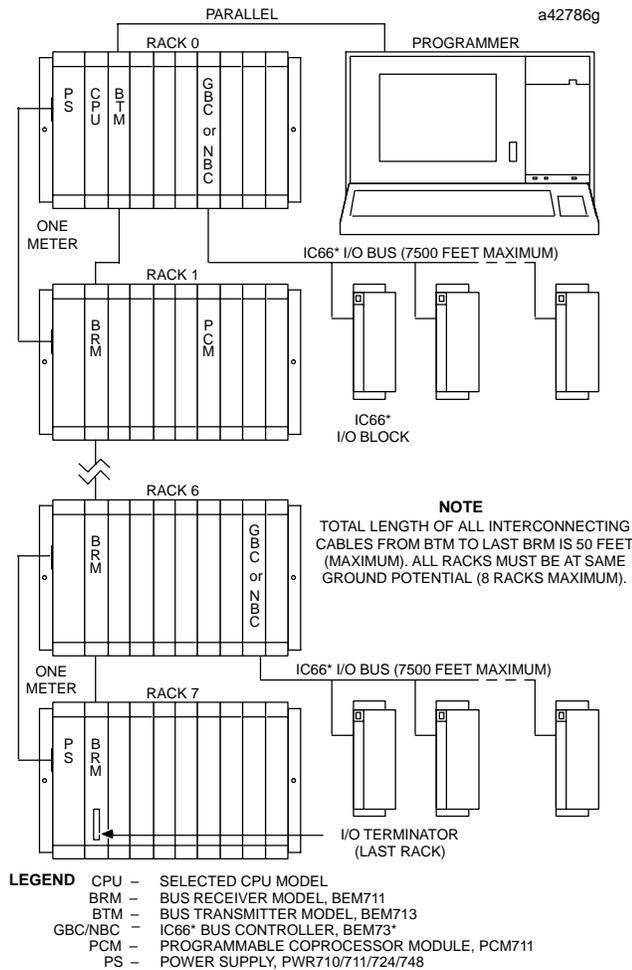

Figure 1. Typical PLC System Configuration
- Install in slot 1 of rack 0. (See figure 1)
For a parallel interface (MS-DOS programmer only) the programmer is connected to the top port on the Bus Transmitter Module (IC697BEM713) as shown in Figure 1. Consult Reference 1 for a description of programming functions.